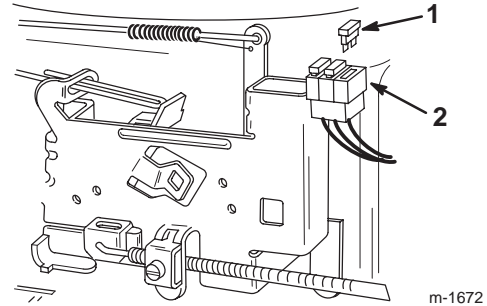

Figure 30
1. Pull up on the fuse (Fig. 30) to remove it from the socket.